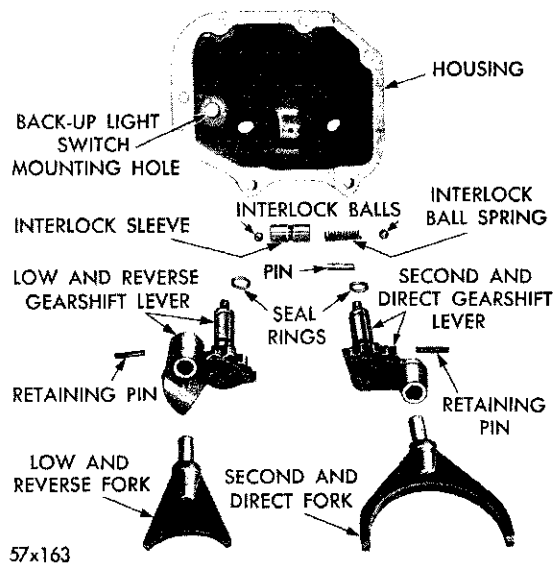

Fig. 1—Gear Shift Housing—Disassembled View
b. Gearshift Housing (Fig. 1)
e. Gearshift Housing (Refer to Fig. 1)